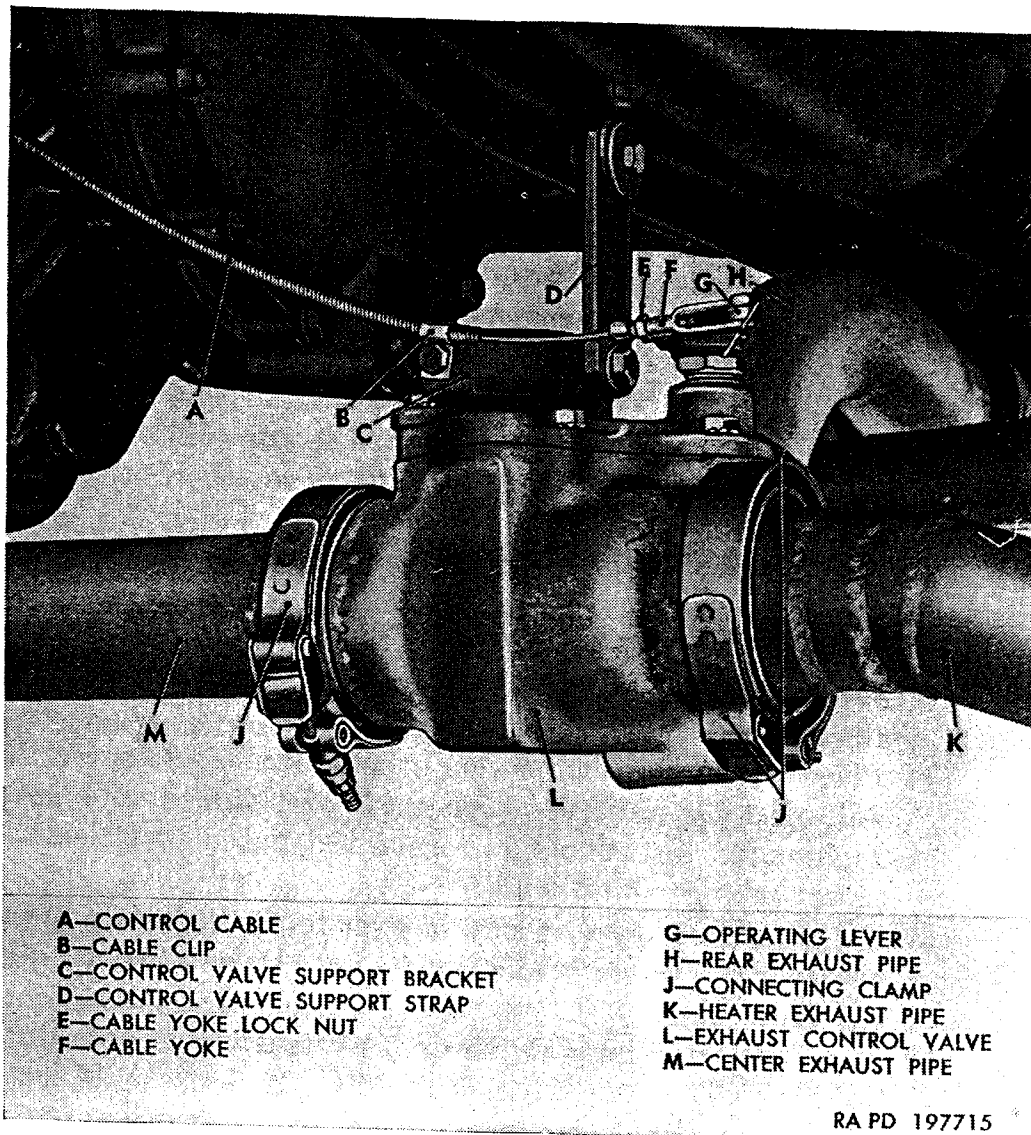

Figure 379. Exhaust control valve installed.
(a) Remove cotter pin and clevis pin attaching control cable yoke to control valve gate shaft operating lever (G, fig. 379).
a. General. Exhaust control valve is a lever-operated gate-type valve having one inlet and two outlets. Valve is connected into engine exhaust system as shown in figure 379, and is supported from the transmission rear support member by a support strap and support bracket. Inlet side of valve is connected to exhaust pipe from engine exhaust manifold. One outlet opening is connected to rear exhaust pipe leading to exhaust muffler; the other outlet is connected to pipe leading to water tank heating chamber. The valve gate, integral with shaft,
b. *Removal* (fig. 379).
- (1) Remove center exhaust pipe (M) (par. 347c(1)).
- (2) Open connecting clamps (J) attaching rear exhaust pipe (H) and heater exhaust pipe (K) to exhaust control valve (L), and slide clamps into pipes.
- (3) Remove cotter pin and clevis pin attaching cable yoke (F) to control valve gate shaft operating lever (G). Remove cap screw attaching cable clip (B) to control valve support bracket (C).
- (4) Remove nut, cap screw, plain washer, and spacer securing control valve support strap (D) to support bracket (C).
- (5) Work control valve assembly loose from rear exhaust pipe
Note. The key letters in parentheses are in figure 379, except where otherwise indicated.